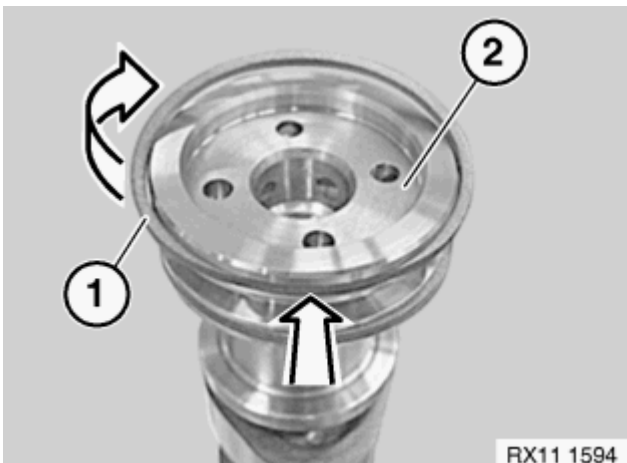

Fig. 424: Installing Plastic Plain Rectangular Compression Ring
Insert plastic rectangular compression ring (1) into groove of exhaust camshaft (2) (see arrow in **Fig. 424**). Lightly oil plastic rectangular compression ring (1) and rotate in direction of arrow until compression ring (1) is positioned on the exhaust camshaft.